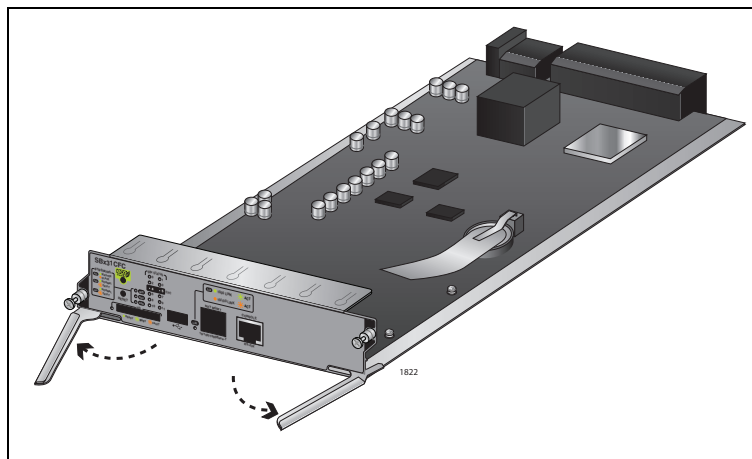

Figure 40. Opening the Locking Handles of the AT-SBx31CFC Fabric Control Card
4. Move the locking handles on the front panel to the open position as shown in Figure 40.